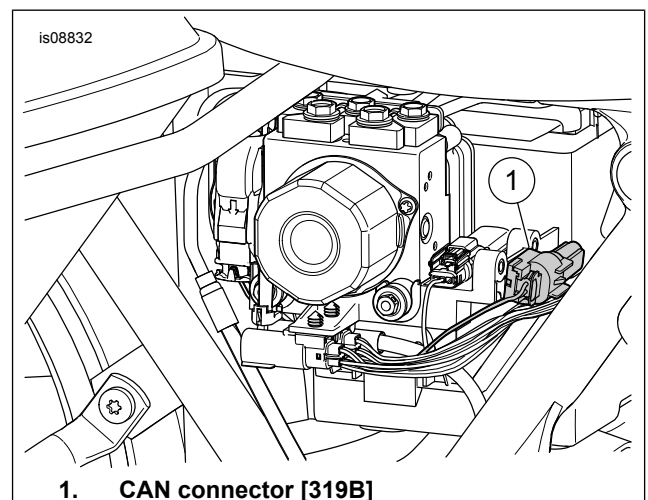

Figure 11. CAN Connector [319B], Under Right Side Cover
5. Locate the black, four-way Molex connector [296A] near the back of the underseat area. **FLHX/FLTRX models:** On a jumper harness coming from the fairing. **FLHTCU/FLHTK models:** On an adapter harness with two 16-way ([162C] and [162D]) and two four-way ([296A] and [297B]) connectors. **With ONLY ONE Stage II amplifier installed in the rear:** Remove the plug in the [296A] connector. Connect the amplifier harness. **With TWO or more Stage II amplifiers installed in the rear:** Plug the audio input harness (15) from **this** kit into connector halves [296A] and [297B] on the adapter harness. Plug **amplifier harness** connector [296A] into the audio input harness.
6. See Figure 11.
- a. Locate the 2-way Delphi CAN connector [319B] (1) under the right side cover.